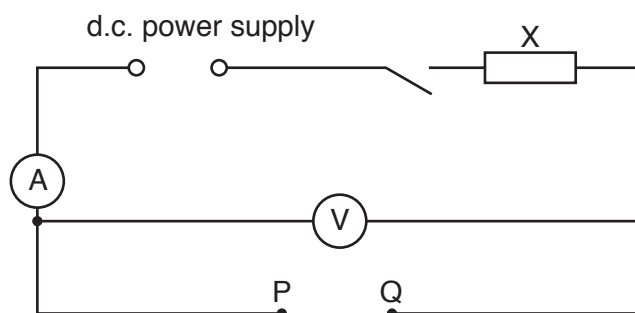

Fig. 3.1
3. The Supervisor should set up the apparatus as shown in Fig. 3.1. The terminals P and Q should be clearly labelled. **Candidates** will be required to connect either the  $10\ \Omega$  resistor or the  $22\ \Omega$  resistor between P and Q.
4. At the changeover, the apparatus should be restored to its original state as in Fig. 3.1, removing any of the resistors labelled with their nominal values from the circuit. There should be a gap between P and Q. If cells are used, they should be checked and replaced, if necessary.